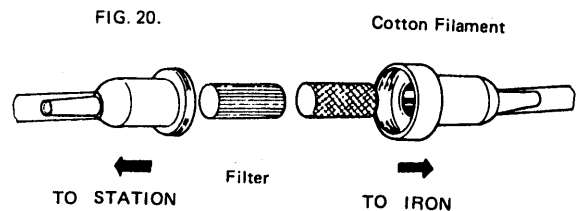

FIG. 20.
1. Unscrew in line filter (see Figure 19) and then pull apart (Figure 20).
2. Replace the filter (lined portion) and cotton filament (shaded portion) as in Figure 20.